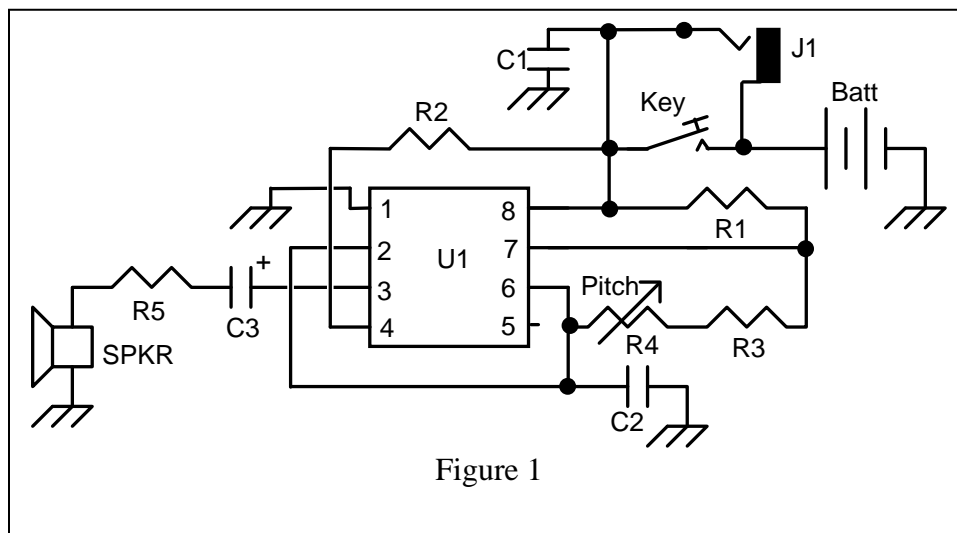

Figure 1
**Simplified how it works.** If you take a look at the circuit diagram in figure 1 you will see that the focal point, and main component of your CPO, is U1, a NE555 Timer integrated circuit. An integrated circuit (IC) is a collection of electronic components (transistors, resistors, etc.) that are interconnected to perform a specific task, and these components are manufactured in an integrated package (and thus the name).